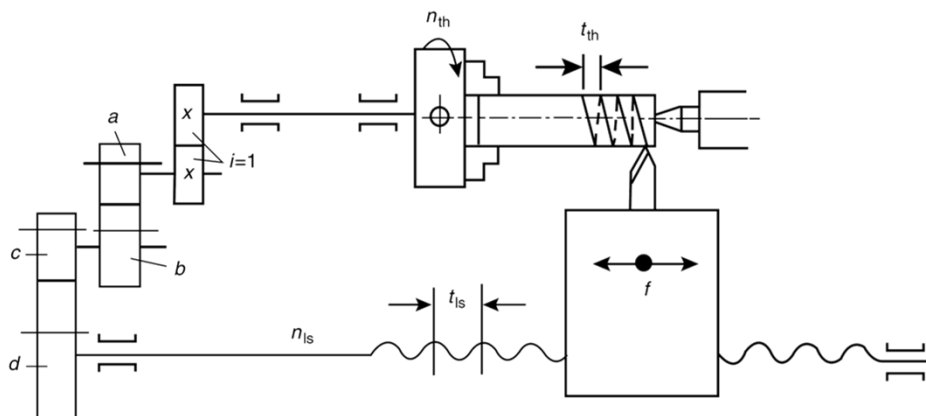

FIGURE 3.7 Setting up the engine lathe for thread cutting.
- In some cases when the machine has not a quick-change gearbox, or when the thread pitch to be cut is nonstandard, change gears must be used and setup on the quadrant as shown in Figure 3.7.